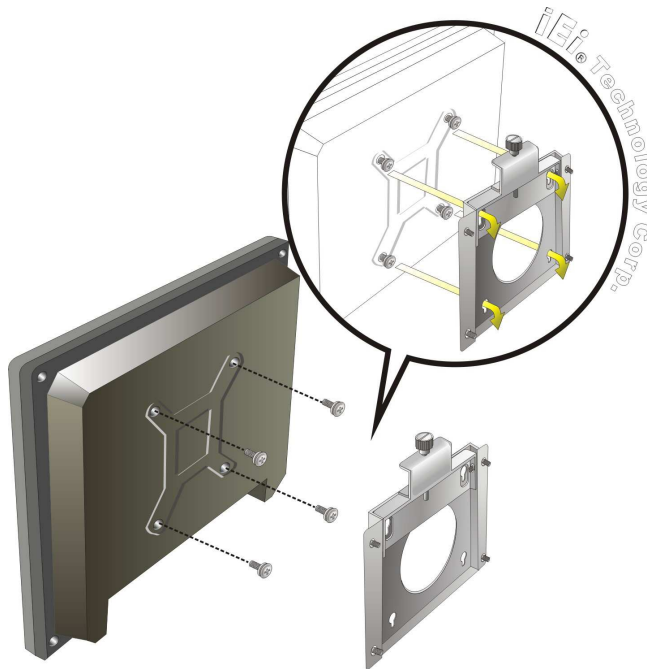

Figure 4-14: Chassis Support Screws
- Step 6:** Insert the four monitor mounting screws provided in the wall mounting kit into the four screw holes on the rear panel of the IOVU-572M and tighten until the screw shank is secured against the rear panel (Figure 4-14).
Step 8: Carefully insert the screws through the holes and gently pull the monitor downwards until the monitor rests securely in the slotted holes (Figure 4-14). Ensure that all four of the mounting screws fit snugly into their respective slotted holes.